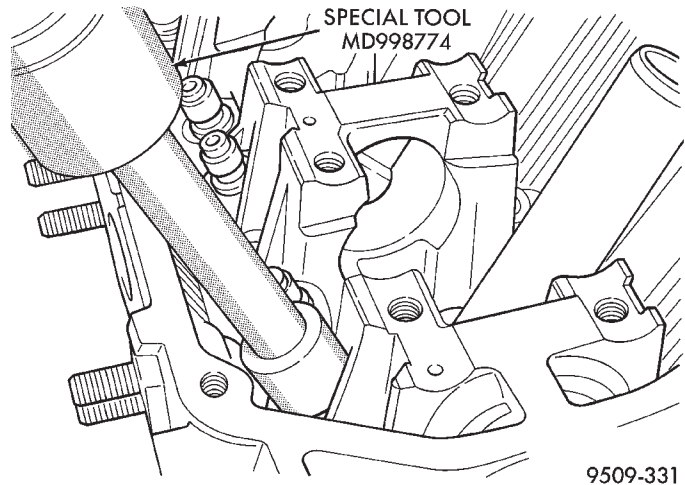

Fig. 56 Valve Stem Seal—Installation
- (2) Using Special Tool MD-998774, install valve seal by tapping lightly until seal is in place (Fig. 56).